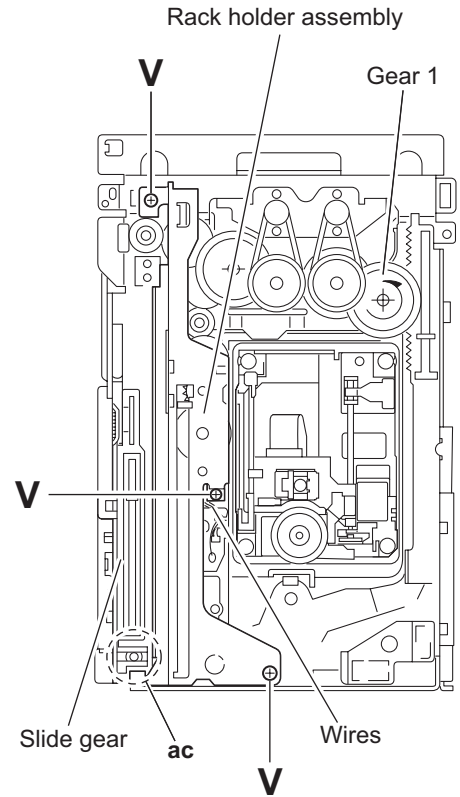

Fig.32
3.2.14 Removing the rack holder assembly and sensor assembly (See Figs.32 to 38)
- Prior to performing the following procedures, remove the tray assemblies, side (L) assembly, side (R) assembly and lifter assembly.
If the slide gear of the DVD changer mechanism assembly places at joint **ac** of the rack holder assembly, turn the gear 1 counterclockwise to move the slide gear in the direction of the arrow. Then Remove the rack holder assembly. (See Figs.32 and 33.)
- (1) Remove the three screws **V** attaching the rack holder assembly and release joint **ac** from the notch ad. (See Figs.32 and 34.)
When reattaching the rack holder assembly, do not nip the wires extending from the sensor assembly. (See Fig.32.)
- When reattaching the rack holder assembly, turn the gear 1 clockwise to move the slide gear and slide lever inside the body in the direction of the arrow. (See Figs.32 and 38.)